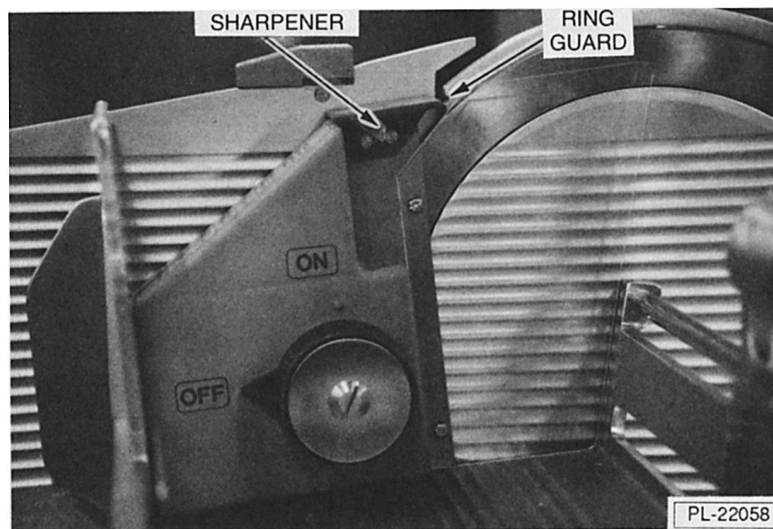

Fig. 45
Mount Sharpener (Fig. 45)
6. Push carriage forward until top of sharpener (Fig. 45) fits into the slot in the ring guard (Fig. 45). The knife is now protected again for the sharpening process to follow.